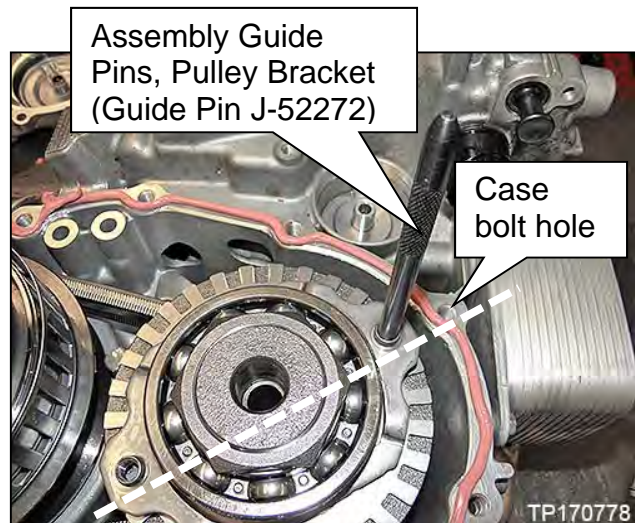

Figure 208
- Place the guide pin next to the case bolt hole as shown in Figure 208.